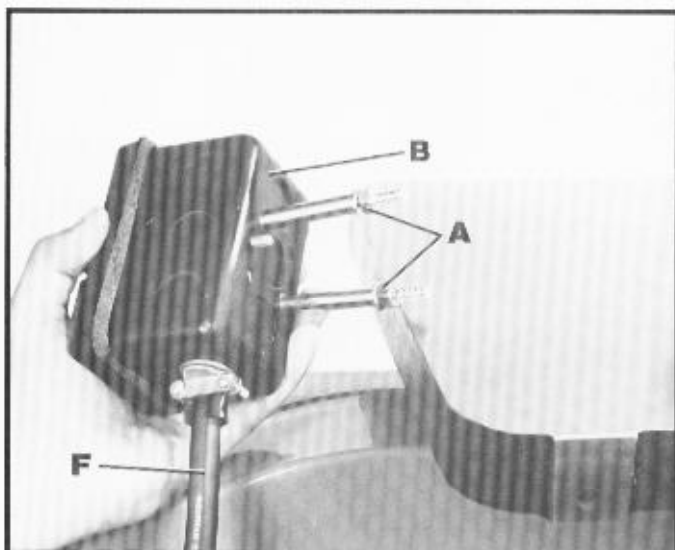

Fig. 7A
3. Remove two outer hex nuts and lockwashers (A) Fig. 7A, from the two screws extending out from the back of the switch box (B).